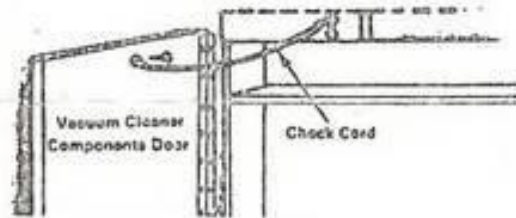

Figure 12
- 13 On 26 foot models attach door check cord to vacuum cleaner components door. Set check cord so that door will open 90° (degrees) to avoid striking screen door. (See Figure 12)